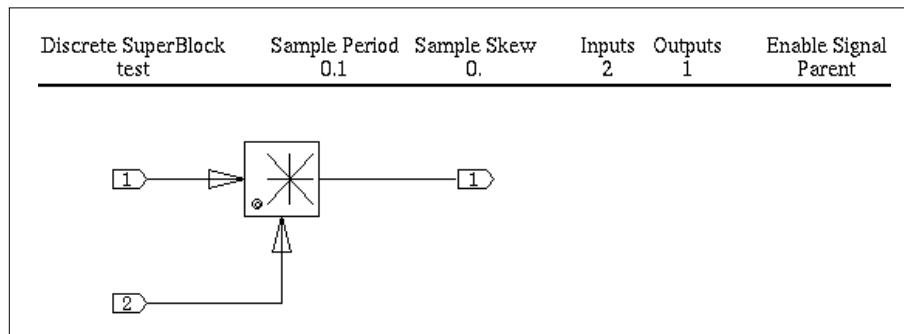

FIGURE 15-3 Model to Demonstrate Overflow
2. Inside the SuperBlock place an `ElementProduct` block. Connect two external inputs to the inputs of the block, and connect the output to an external output. See Figure 15-3 on page 15-13 for this model.